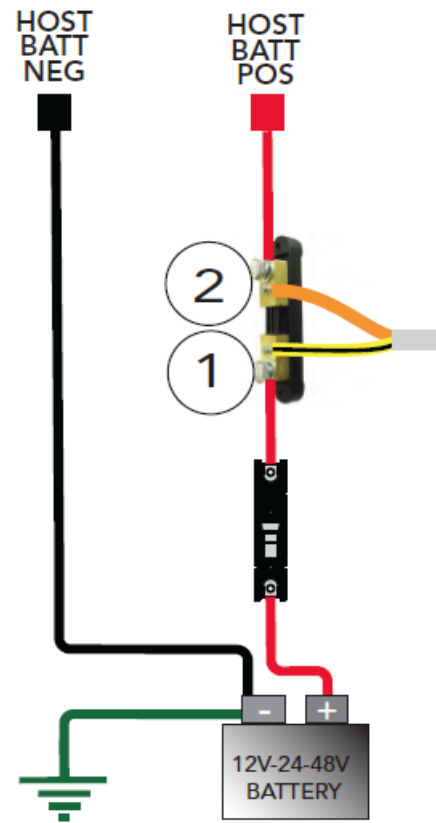

Figure 5-2. Positive Leg Shunt
If installing the shunt on an ungrounded conductor (see Figure 5-2 below), install a fuse or breaker to protect the circuit from a short between the shunt terminals and grounded equipment.
- **B. Positive Leg Installation** (see Figure 5-2 below). For a system with a shunt(s) in the positive leg, connect the yellow/black stripe (twisted-pair) wire to the battery side of the shunt, and then connect the other end to level A(1) or B(1) ReadyShunt terminal.